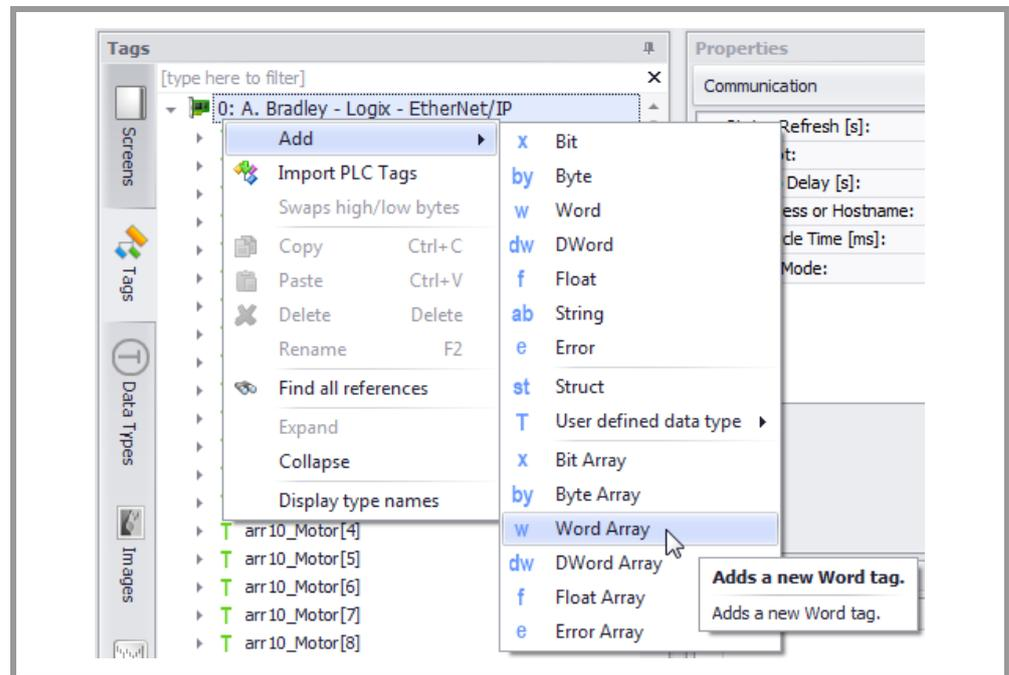

Fig. 35 Create a word array tag
1. Create a word array tag as shown in Fig. 35.